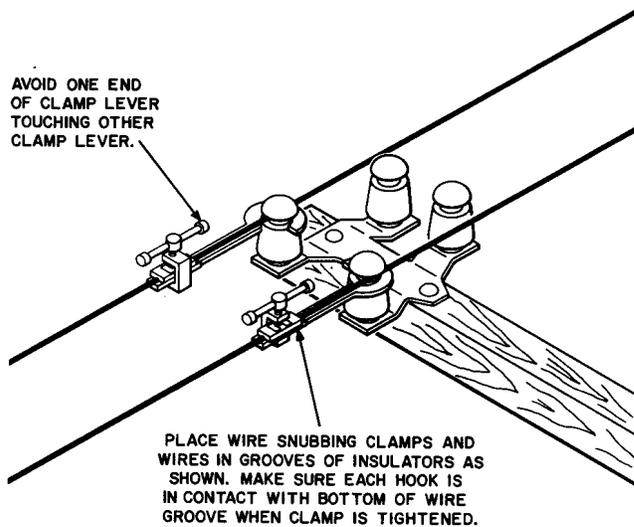

Fig. 4—Wire Snubbing Clamps Placed
3.01 Snub each wire to the insulator on the transposition bracket on the side of the crossarm toward the spans already transposed, or toward the terminal using right and left hand wire snubbing clamps (Fig. 4).